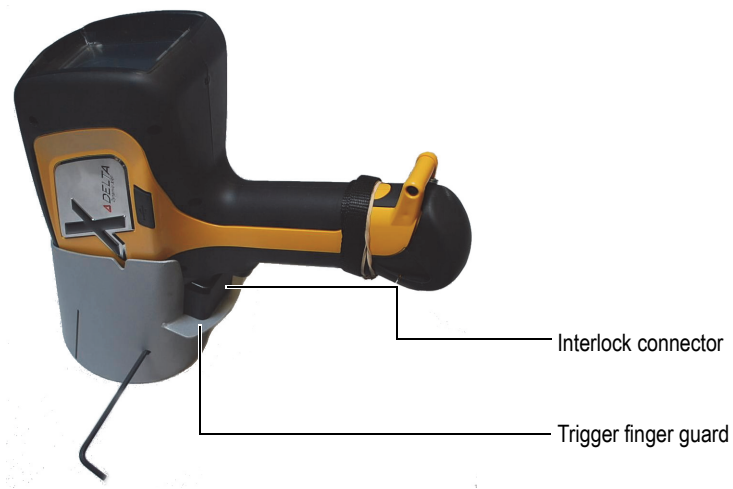

Figure E-4 Probe-shield interlock connection
5. Carefully slide the analyzer into the probe shield until the interlock connector is seated (see Figure E-4 on page 155).